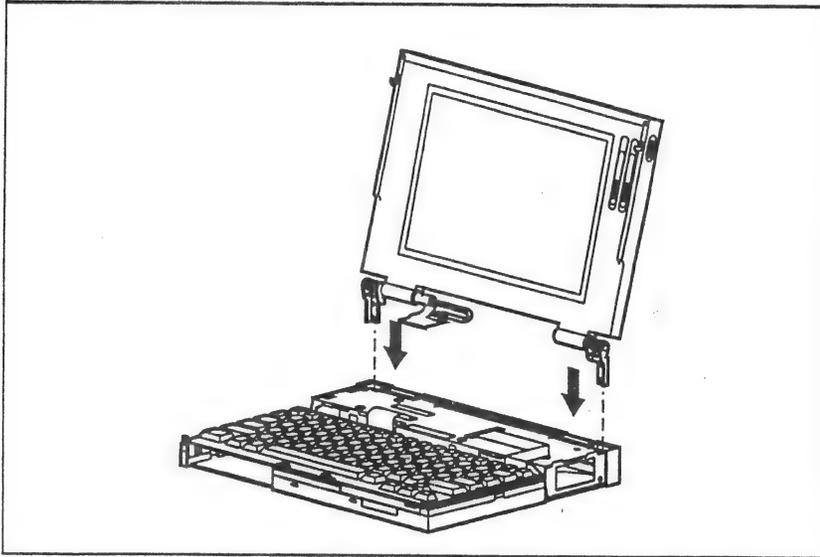

Figure 2-31. Aligning the Display Panel
1. Position the display panel by aligning the display clutches with the CPU base (Figure 2-31).